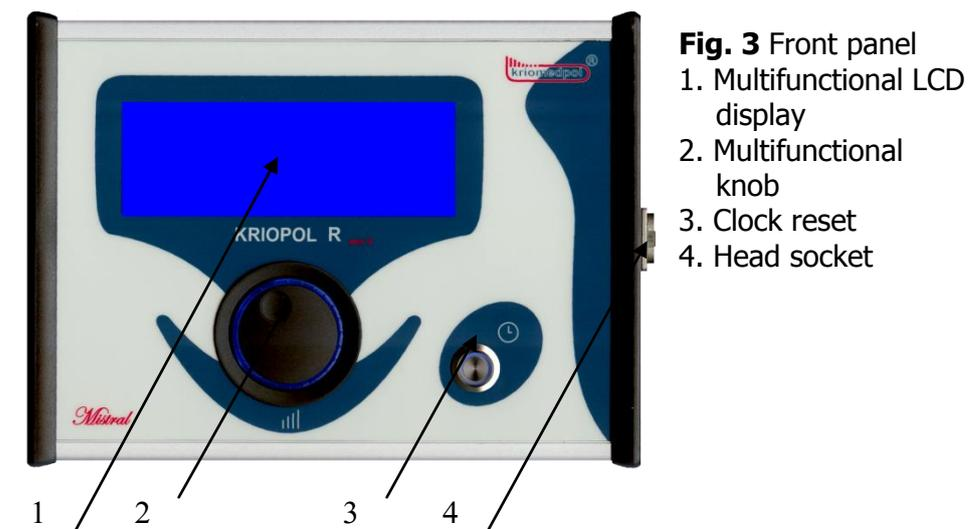

Fig. 3 Front panel
When the following message appears on the LCD display (1 Fig. 3), release the "reset" button.
- * Knob (2 Fig. 3) – <<< >>> setting marking for subsequent function
- * Switch on the knob (2 Fig. 3) – <confirm> confirming the marked function (calibration, panel, LCD backlight, pulsation, power regulation, speech, volume, clock)
- * Clock resetting button (3 Fig. 3) – <stop> exit to operating mode